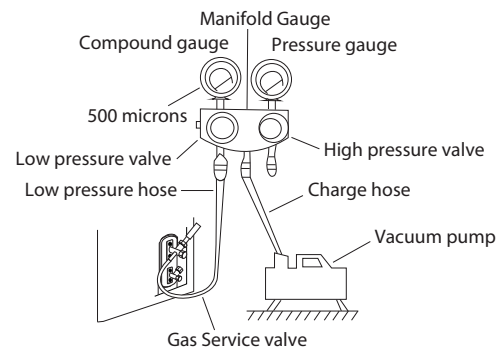
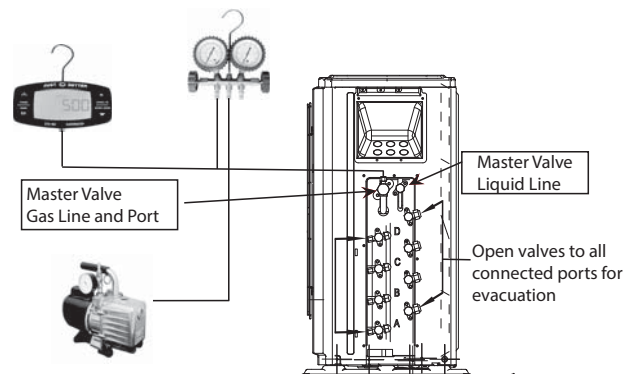

Fig. 26 — Manifold Gauge
Fig. 27 — Manifold Sizes 24–48
For sizes 24–48, connect the manifold gauge (low side hose) to the Master service valve (5/16 port, use the adapter to fit a 1/4in. hose) to evacuate all circuits at the same time (see Fig. 27).
5. Open (fully) the low pressure valve of the manifold gauge (see Fig. 26 for 18. Fig.27 for sizes 24–48).